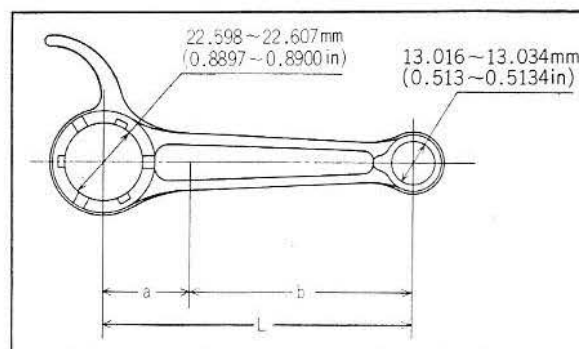

Fig. 2-48 Dimensions of connecting rod
5. Connecting rod small end. (Fig. 2-48)